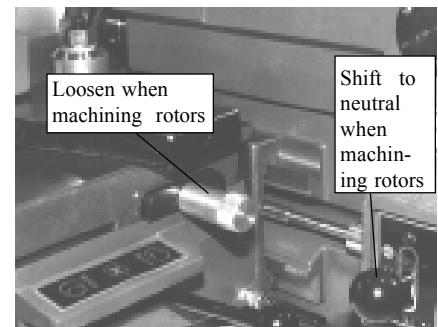

Figure 33
7. **IMPORTANT:** In all cases when machining rotors, be sure the adjusting knob that locks the cross slide is always loose. If tightened, it will create unnecessary wear and strain on the drive train. See Figure 33.